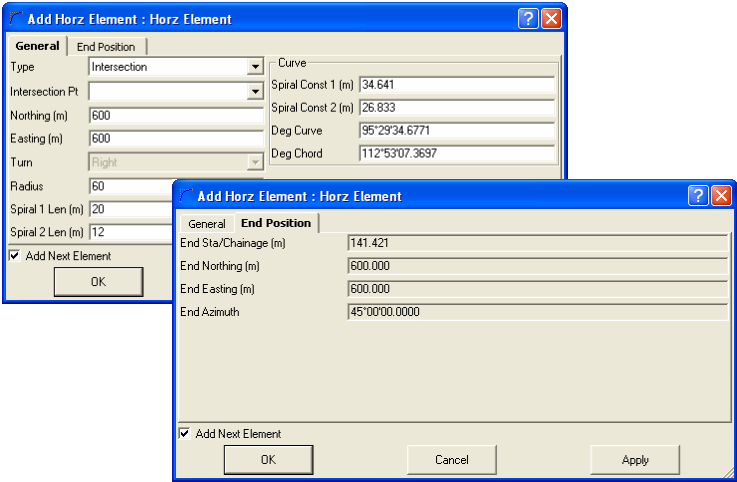

Figure 9-53. Add Horiz. Element Dialog Box – General and End Position Tabs
- *Length1(Length2)/Sp Const1(Sp Const2)* – the length of the first and second spirals element or the parameter unambiguously defining the length: spiral constant (see Figure 9-53 on page 9-39).
- *Radius/ Deg Chord/Deg Curve* – the radius of the curve (Figure 9-53 on page 9-39), or one of the two parameters unambiguously defining the radius: degree of chord, or degree of curve.